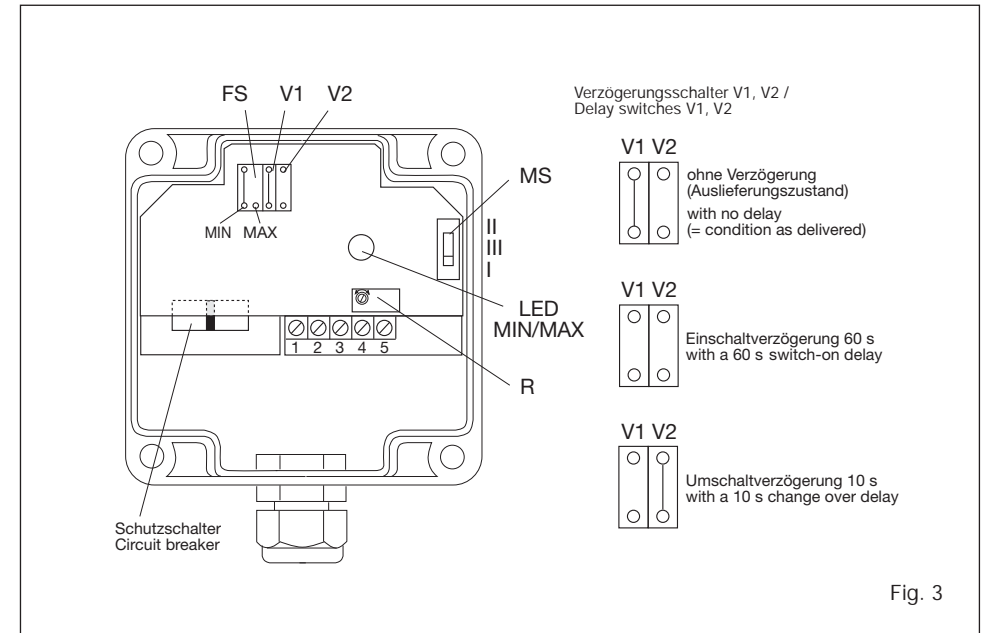

Fig. 3
- 2 Mediumschalter (MS) dem zu überwachenden Medium anpassen:
- 3 MIN- oder MAX-Funktion mit Funktionsschalter (FS) wählen (siehe Fig. 3).
- 2 Set medium selector switch (MS) to
- position III** = for air or gases of similar thermal conductivity (see fig. 3).
- 3 Select either the MIN or MAX function by means of selector switch (FS), see fig. 3.
- 4 To facilitate flow response setting leave the delay switch (V1 and V2, fig. 3) in the condition as delivered (with no delay if V1 closed, V2 open).